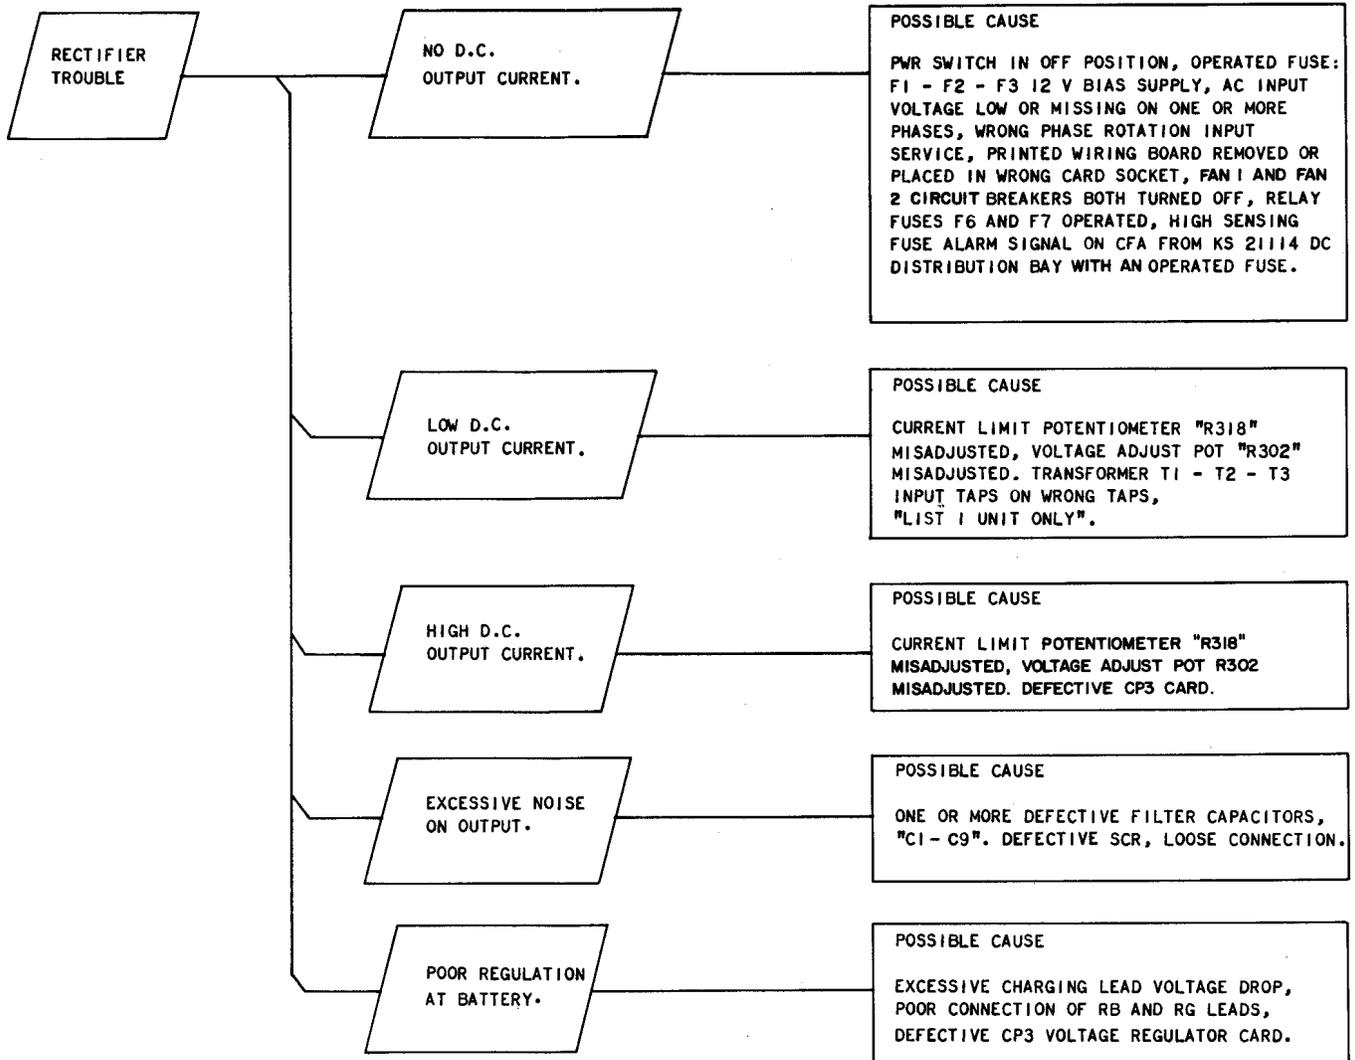

Fig. 5—Trouble Flow Chart
**5.03** The trouble flow chart in Fig. 5 contains information on the more common failures and possible causes.